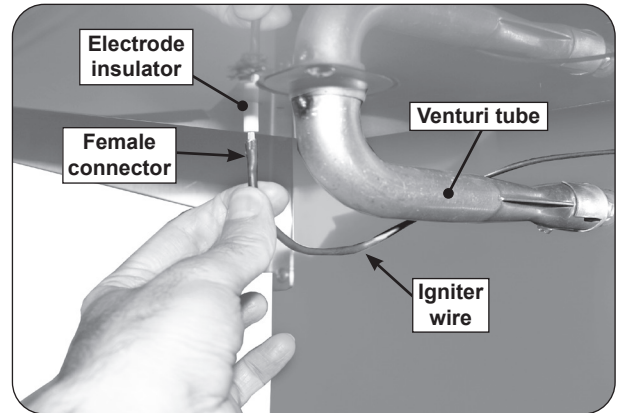

Fig. 21-2 Igniter wire connection
4. Connect the female connector on the end of the igniter wire to the male igniter connector protruding from the bottom of the white insulator. See Fig. 21-2.